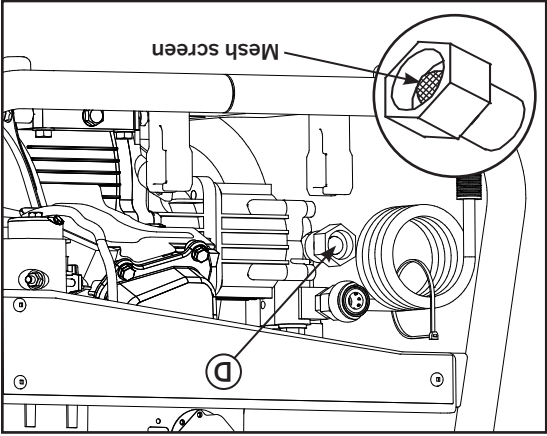

Figure 2
4. Check the presence and state of the water inlet gasket (D on figure 2).